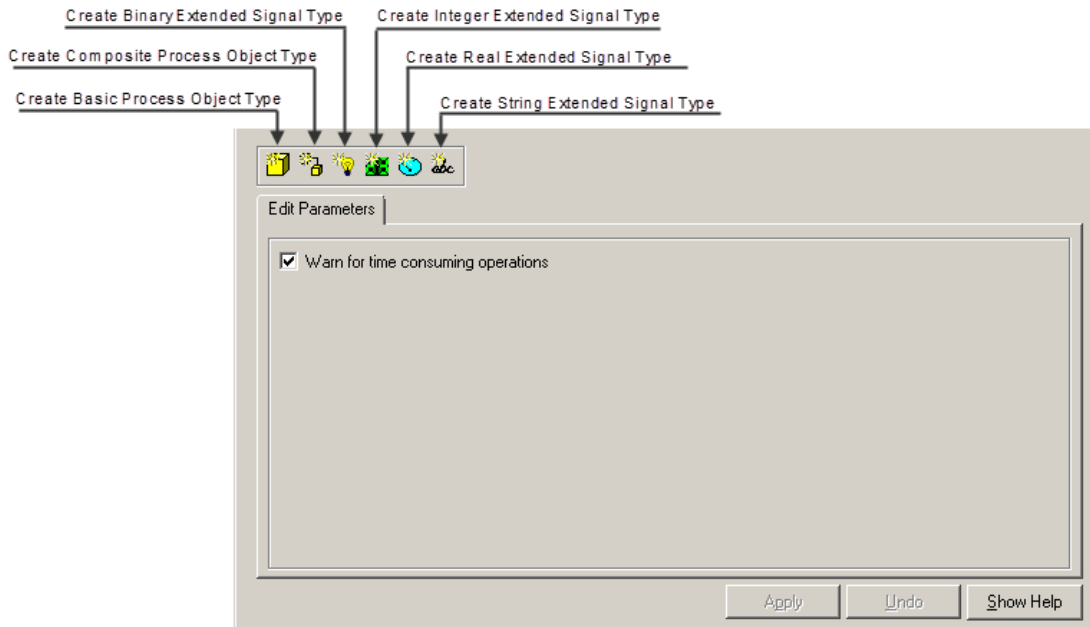

Figure 4. Generic Control Network Configuration Aspect
3. In the Aspect List area, select Generic Control Network Configuration aspect as shown in Figure 4. This aspect is used to create new process object or signal types.